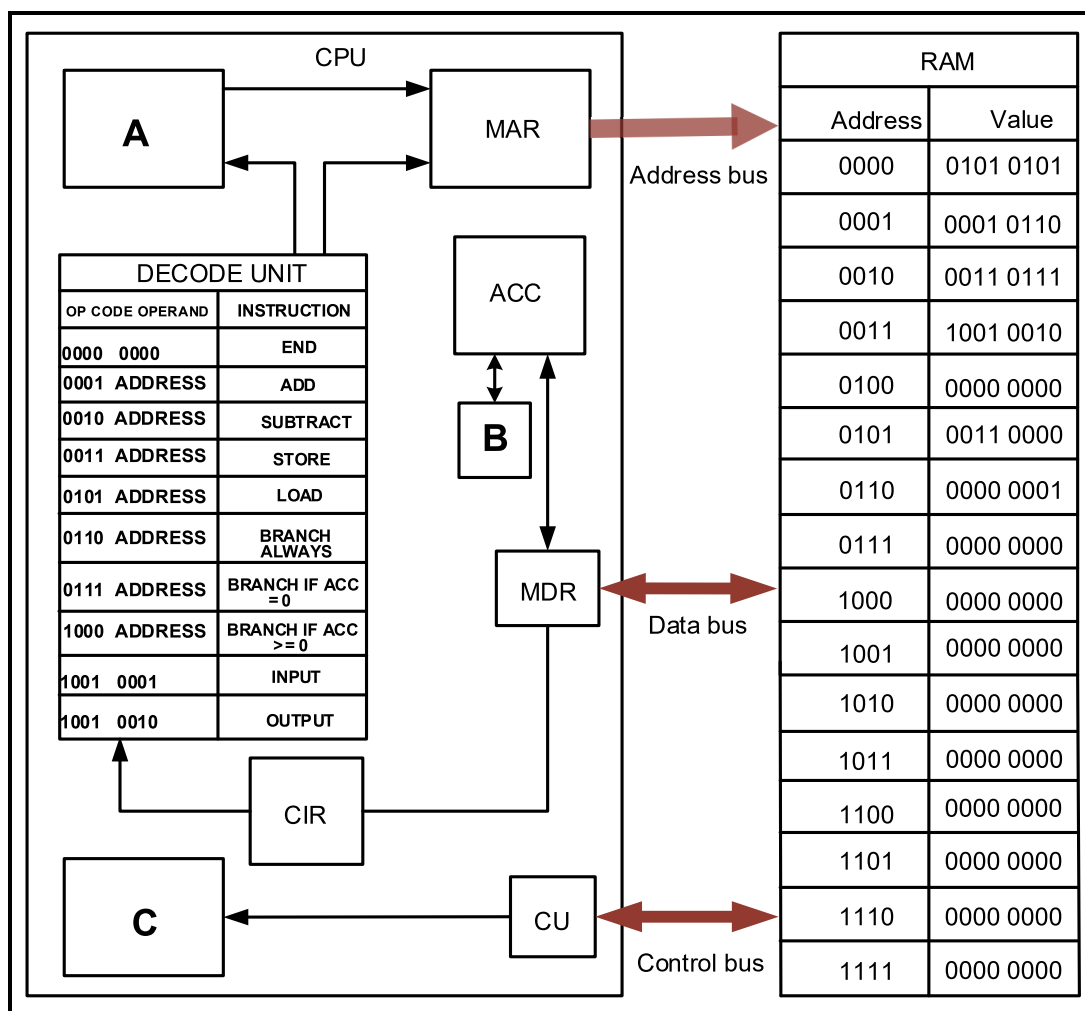

FIGURE 6.2: DATA TRANSFER BLOCK DIAGRAM
6.2 Refer to the block diagram in FIGURE 6.2 below and answer the questions that follow.